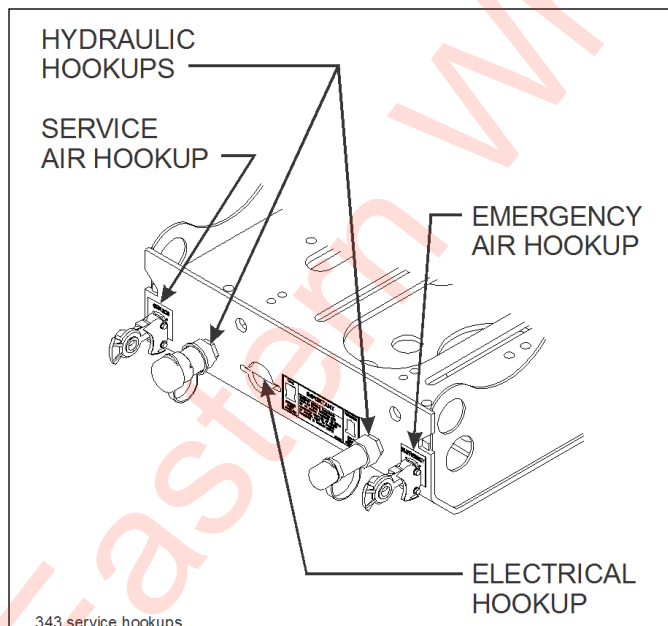

Figure 3-1: Service Hookups (Front View)
3. Connect the service and emergency air hoses of the tractor to their respective gladhand on the front of the semitrailer. The tractor's air hose couplings are then attached and locked to the appropriate gladhands; the **red emergency line** to the gladhand with the "EMERGENCY" tag, and the **blue service line** to the gladhand with the "SERVICE" tag (See Figure 3-1.) Chock the semitrailer wheels before activating the semitrailer air supply valve in the tractor. Set the semitrailer brakes.
1. Connect the tractor 7-way electrical plug to the electrical receptacle on the front of the semitrailer (See Figure 3-1.)